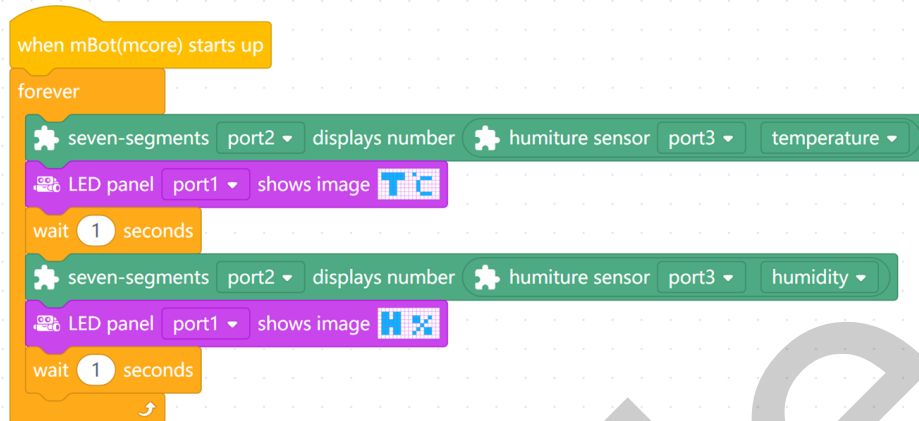

FIGURE 13 Adding two LED panel blocks to our program with labels and units
17. Once you have the display finished, drag the blocks under the "seven segments" blocks so your program is similar to the program in Figure 13.
18. If you were to run the Figure 13 program on mBot, the program would run "forever" (or until you turn off mBot). The LED Matrix would also stay on "forever," which could quickly run down the mBot battery. So, let's incorporate an energy saving feature by modifying this program to display the weather information for a few cycles after a user presses the Onboard Button.